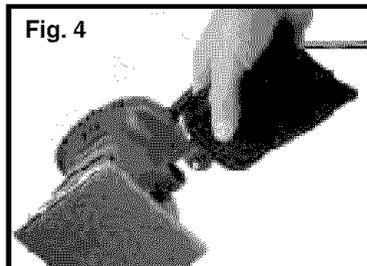

Fig. 4
3. Align the dust bag slot with the locking pin on the dust collecting port, insert the dust bag onto the dust collecting port and twist to lock (see Fig. 4).